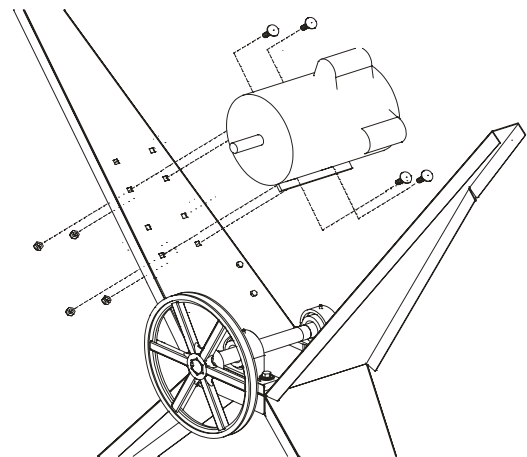

Figure 1 - Remove the Motor
3. See **Figure 1**. Remove the four cap screws and lock nuts holding the motor and remove the motor. It is not necessary to remove the pulley from the motor shaft. Save the cap screws and lock nuts. They will be used in **Step 5** when re-installing the motor.